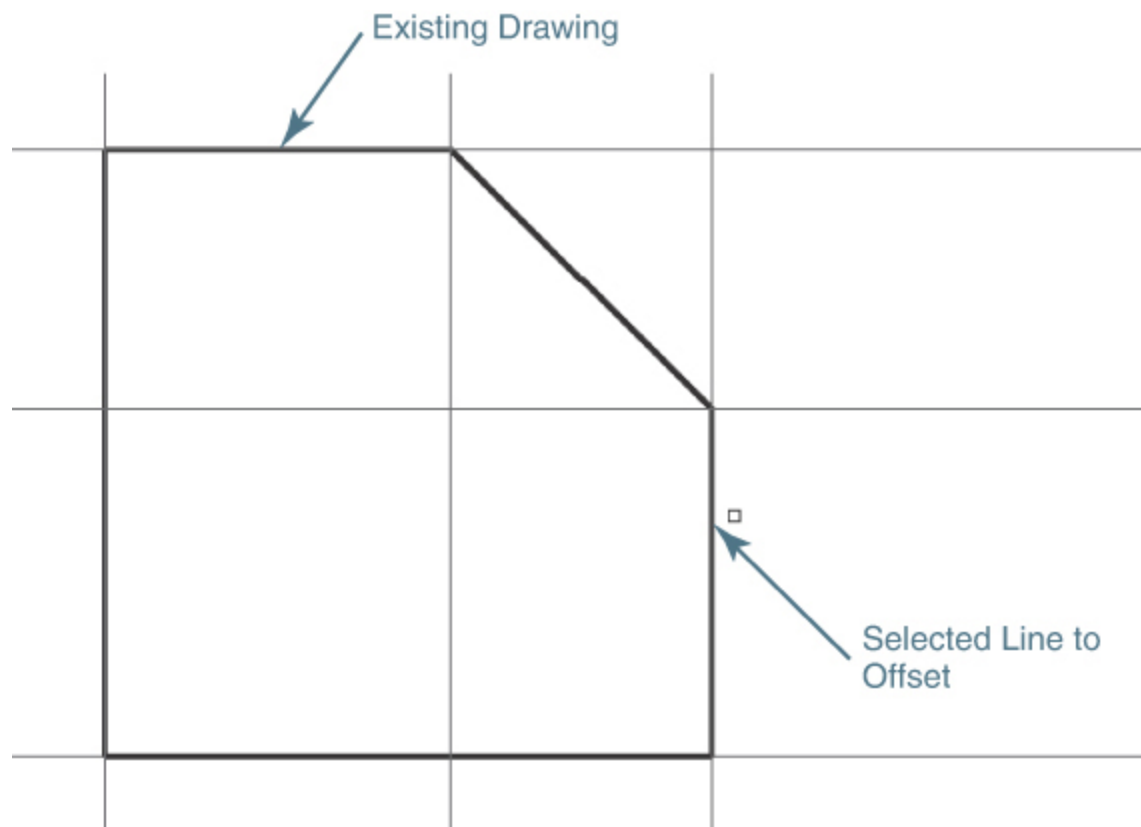
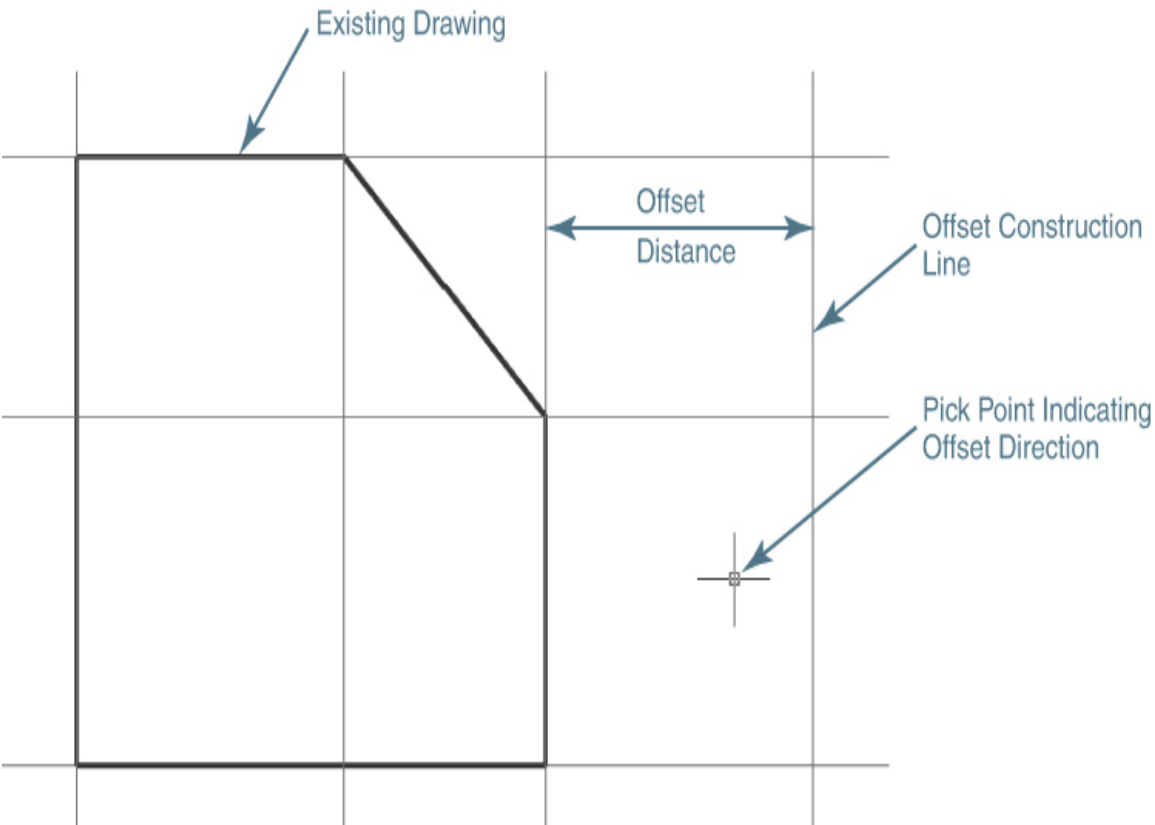

Figure 5-63A
Figure 5-63B
Both options require that you select the line object you want to offset (see Figure 5-63A) and then pick a point on either side of the selected line object to indicate the direction you want to offset (see Figure 5-63B). If you are using the **Through** option, the pick point is also used to locate the line.
- 6 Select the vertical line, as shown in Figure 5-63A. AutoCAD then prompts you for the side you wish to offset:
- 7 Pick a point on the right side of the object, as shown in Figure 5-63B, to indicate that you want to create a vertical construction line offset on the right-hand side of the line.